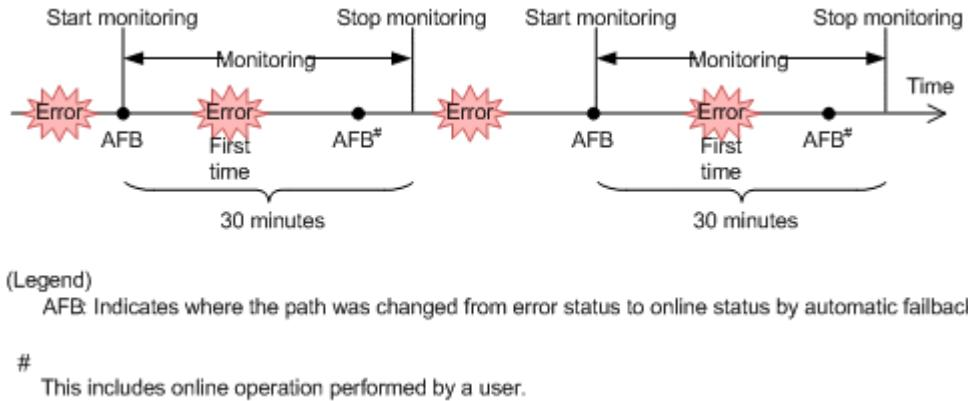

Figure 2-14 What Will Happen When an Intermittent Error Does Not Occur on a Path
- When you are using intermittent error monitoring, sometimes, the path in which the intermittent error occurred is not automatically placed online after the path has been recovered from the error. If this happens, manually place the path online. If the only other online path is in the `Online (E)` status when the path is recovered from the error, the path recovered from the error might be placed online automatically. For details, see Figure 2-14 What Will Happen When an Intermittent Error Does Not Occur on a Path on page 2-29.
As shown in Figure 2-14 What Will Happen When an Intermittent Error Does Not Occur on a Path on page 2-29, normally, the count for the number of times that an error occurs is started after the path is first recovered from an error by using the automatic failback function. However, if all the paths connected to the LU are in the Offline (E), Online (E), or Offline (C) status (which is due to the disconnection of the paths or some other reason), the paths will not be recovered and put back online by using the automatic failback function. If I/O operations are continuously being issued to such an LU, the count for the number of times that the error occurs might be started even though the path will not be placed online. If the number of times that the error occurs reaches the specified value, the path is determined to have an intermittent error. In such a case, remove the cause of the error, and then manually place the path online.